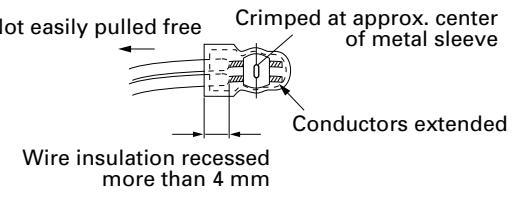

Fig.7
- Check the four points noted in Fig.7.